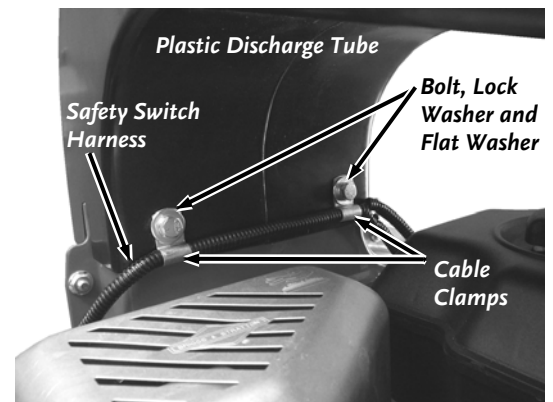

Figure 13
14. Secure the Tube and two Safety Wire Harness Cable Clamps to the rear of the Housing with two 5/16"-18 x 5/8" Bolts, Lock Washers and Flat Washers (not fender washers) (**Figure 13**).